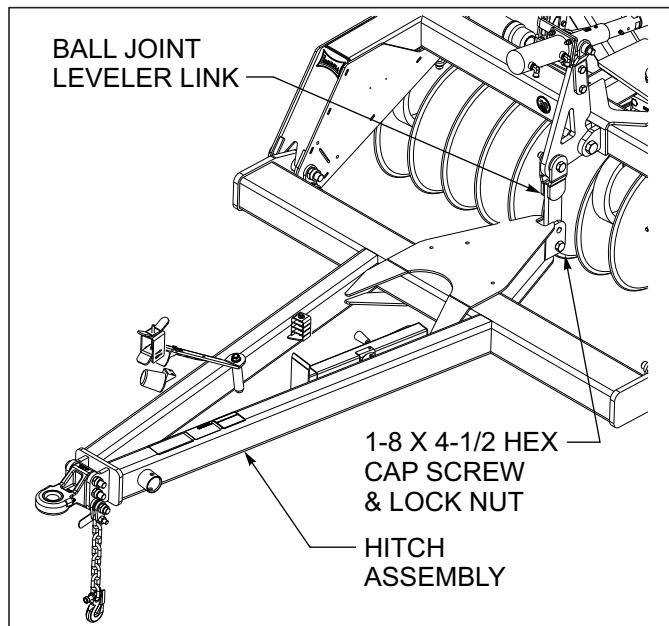

Figure 4-12: Hitch Adjustment
4. To adjust the hitch (See Figure 4-12.):